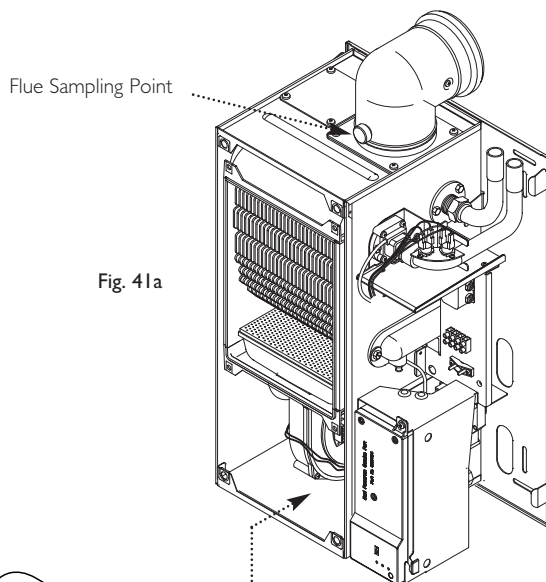

Fig. 41a
11. Check the CO/CO² ratio and CO² level at the flue sampling point (Fig.41a) as is quoted in Section 4.0, 'Technical Data'.